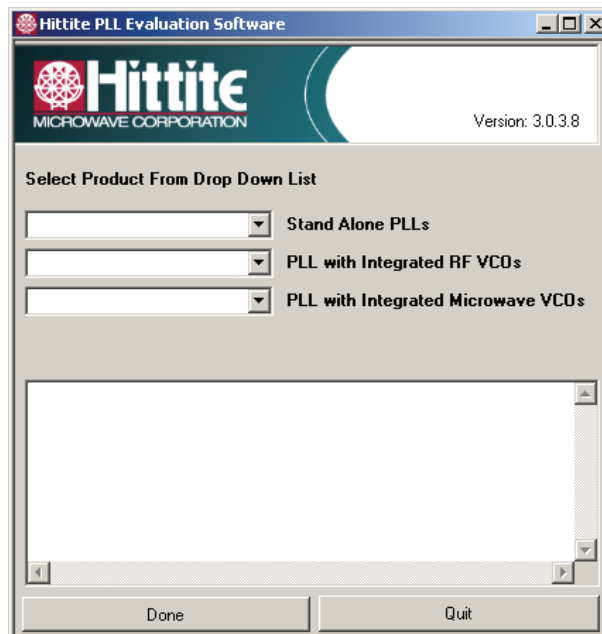

Figure 2. Hittite PLL Product Selection Window
1. Launch the "Hittite PLL Eval Software" file from Start, All Program Files menu on your PC, or from your Desktop. Hittite PLL Evaluation Software Selection Window shown in Figure 2 will appear. From the drop down list, select the part under test.